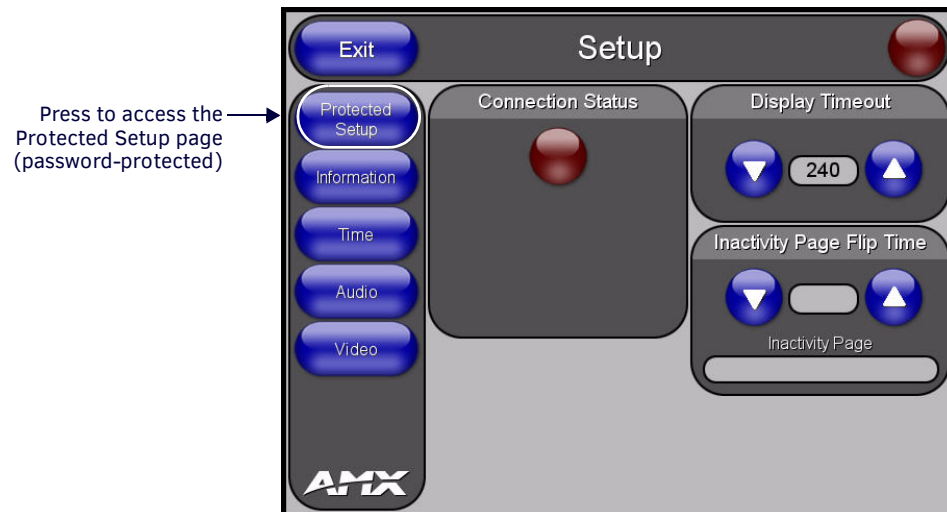

FIG. 36 Setup page - Protected Setup button
1. Press the front panel SETUP pushbutton to open the *Setup* page (FIG. 36).